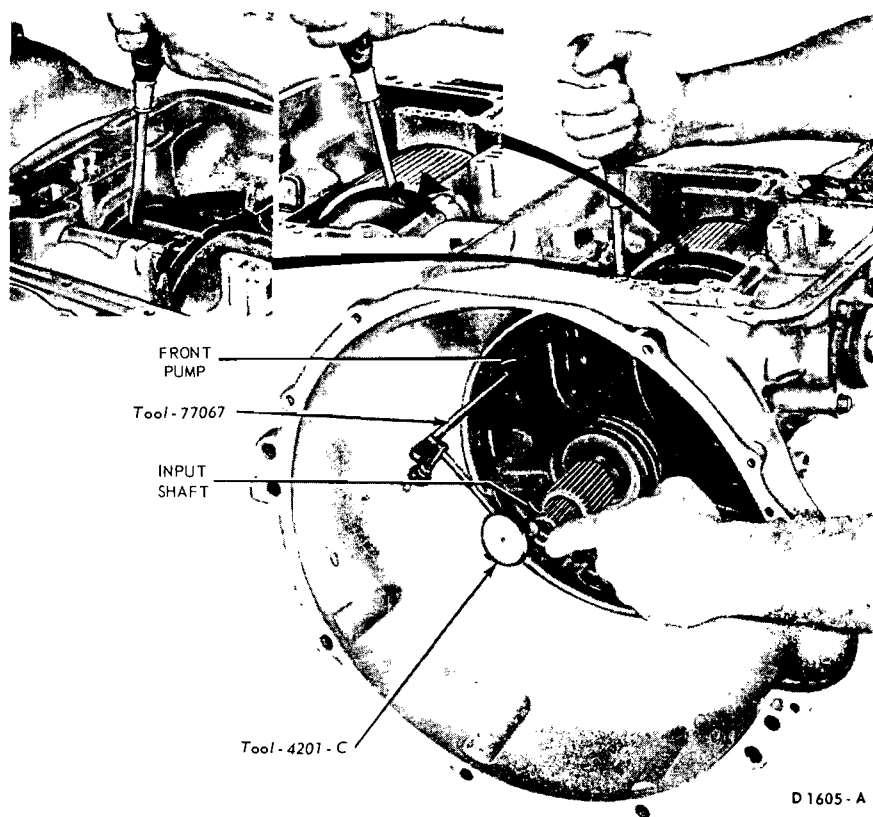

FIG. 32—Checking Gear Train End Play
4. Attach a dial indicator to the front pump as shown in Fig. 32. Install tool T61L-7657-B in the extension housing to center the shaft.
5. Pry the gear train to the rear of the case and at the same time, press the input shaft inward until it bottoms (Fig. 32). Set the dial indicator to read zero.
6. Pry the gear train forward (Fig. 32) and note the amount of gear train end play, on the dial indicator. Record the end play to facilitate assembling the transmission. Remove the dial indicator from the pump and the tool from the extension housing.